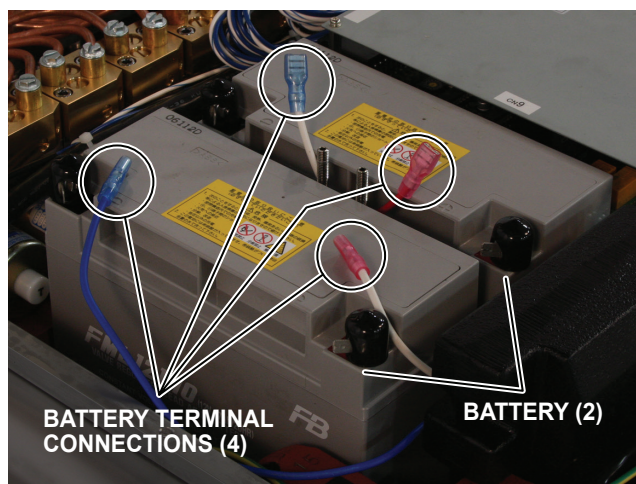

Figure 4-7. Battery Terminal Disconnect
4. Remove the wire terminal connections to both batteries (Figure 4-7).